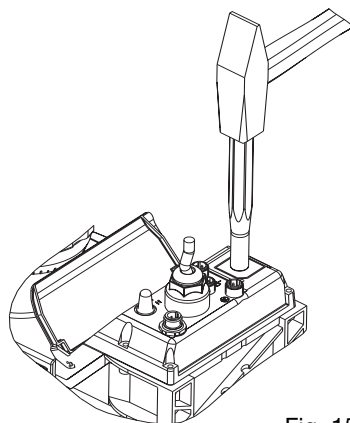

Fig. 15
- ▶ Place the S2Ca on a firm surface with the relay opening press-out section at the top (see fig. 15)